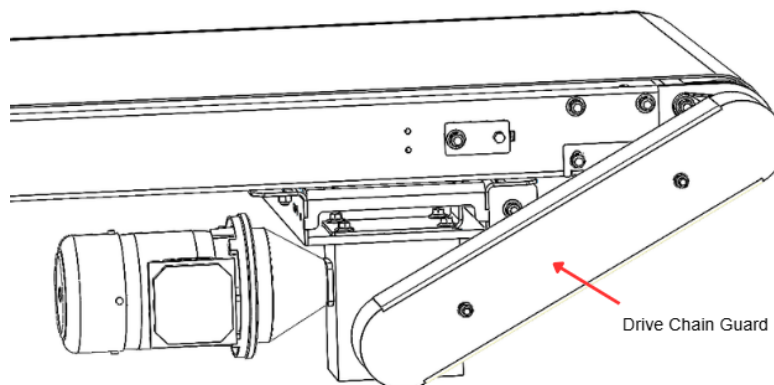

Figure 3.2 - Drive Chain Guard (End Drive Shown)
- Remove drive chain guard and inspect drive chain and sprockets. See *Figure 3.2*.